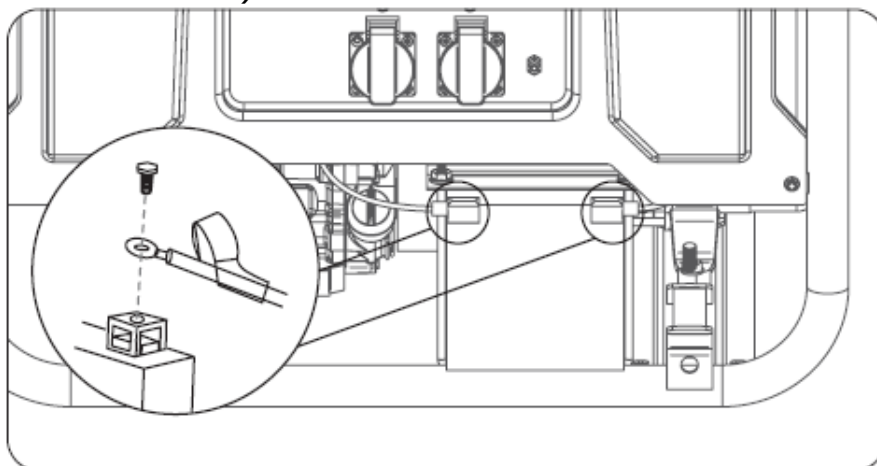

Fig.4
6.4 Attaching the Battery Cable (See Fig.4) (FG6250PE / FG7750PE/ FG 9250PE ONLY)